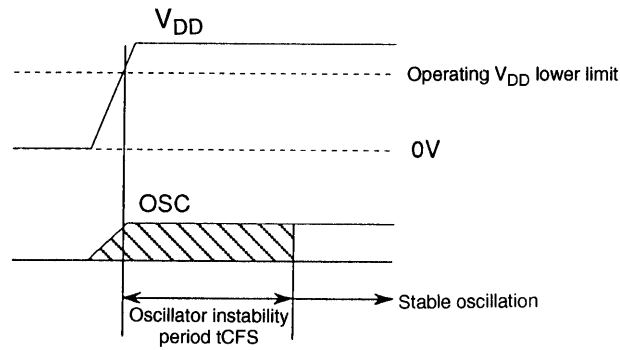

Figure 3 Oscillator Stabilization Period
- Note: 1. When driven internally using the oscillator circuit shown in Figure 3 with guaranteed constants, values up to the amplitude of the generated oscillation are allowed.